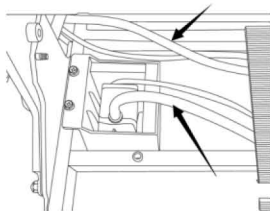
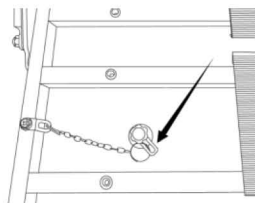

Fig.2.2
Fig.2.3
3. To guarantee proper operation, the cooling water hose must not be kinked during installation. (Fig.2.2)
5. Insert the water stopper (16) into the hole in water tank.
6. Store the water stopper all times after using. (Fig 2.3)